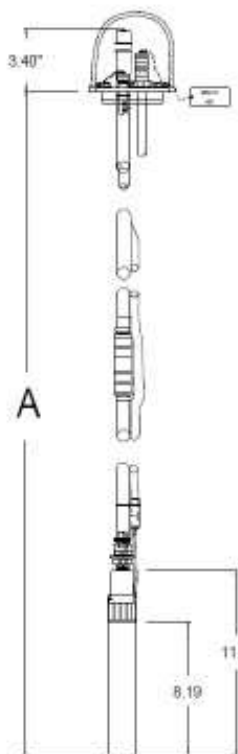

Figure 2-1: Reference Points for Dedicator® Installation
- Happy Hose!® lengths ("A") are referenced from the bottom of the pump to the bottom of the well seal plate (see Figure 2-1 dimension "A").